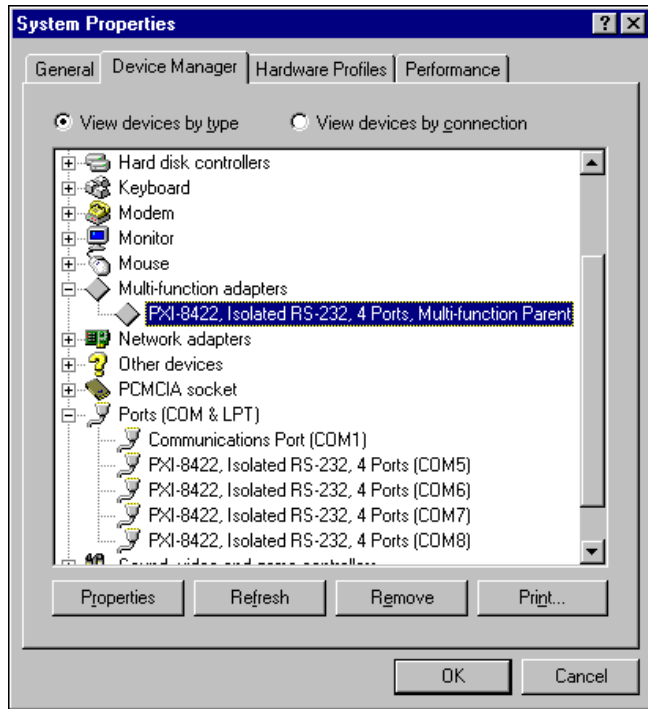

Figure C-1. Ports List in Device Manager
5. Select the interface that Windows Me/9x did not detect, as shown in Figure C-1.